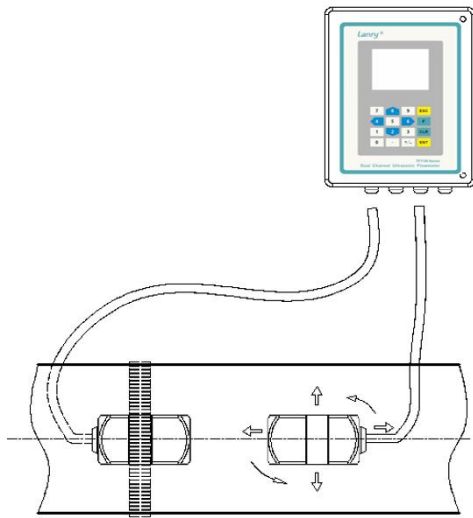

Figure 2.6
6. Place the downstream transducer on the pipe at the calculated transducer spacing. The installation of a pair of sensors is used as an example. The method of the other pair is the same. See **Figure 2.6**. Using firm hand pressure, slowly move the transducer both towards and away from the upstream transducer while observing Signal Strength. Clamp the transducer at the position where the highest Signal Strength is observed. Signal Strength